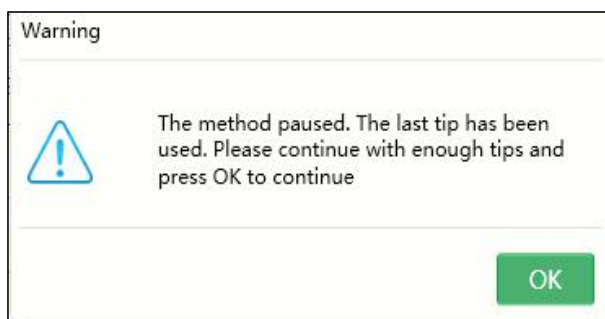

Figure 5.53 Dialog Box of Tips Shortage
1) A dialog box will be displayed as figure 5.53 to remind user of adding tips to tips area when the tips are used up. The operation of method set running can be continued after clicking “OK” by the user.